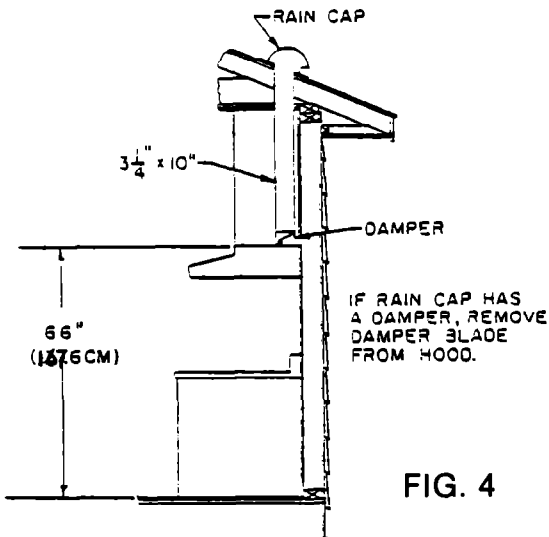

FIG. 4
13. Be sure that damper which is supplied with this product is properly installed. (See Figures 4 & 5).